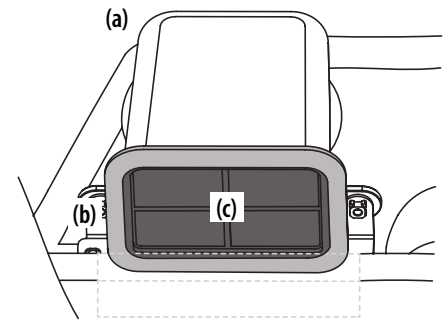

Figure 5-30
2. Remove the rubber seal (b) around the front of the air intake (a) and remove the air intake screen (c). See Figure 5-30.
3. Rinse the air intake screen (c) with water and replace the air intake screen (c) and rubber seal (b). See Figure 5-30.